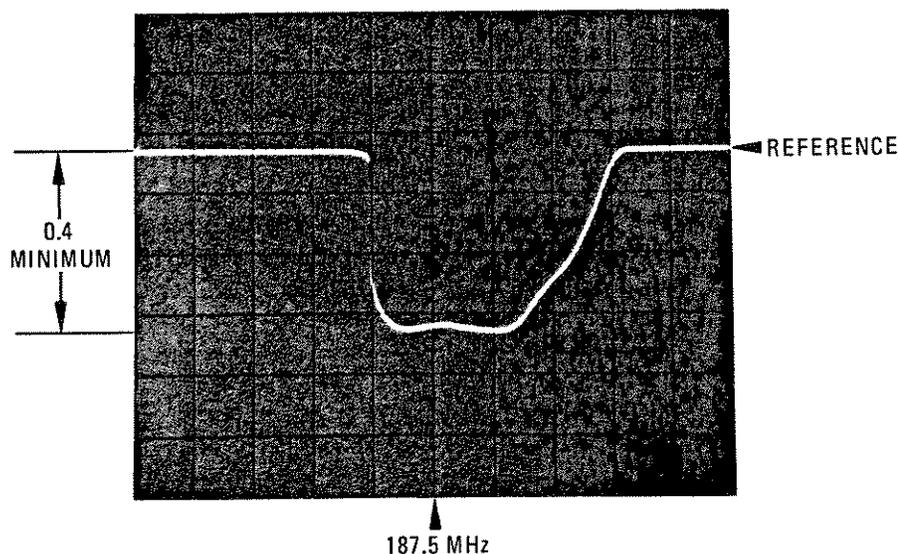

Figure 5-10. Sampler Frequency Response
8. Adjust A3A9A5C1 and C2 (with an insulated adjustment tool) to get an oscilloscope display similar to Figure 5-10. Tune for maximum negative voltage and flatness over the center two divisions. The minimum change from the reference level to the maximum negative voltage should be 0.4 volts. (Troubleshooting Note: If the minimum change is out of tolerance, A3A9A5Q3 and Q8 may have low gain, the YTO feedback signal feeding the RF port of the mixer may be low, or the sampler may be bad.)